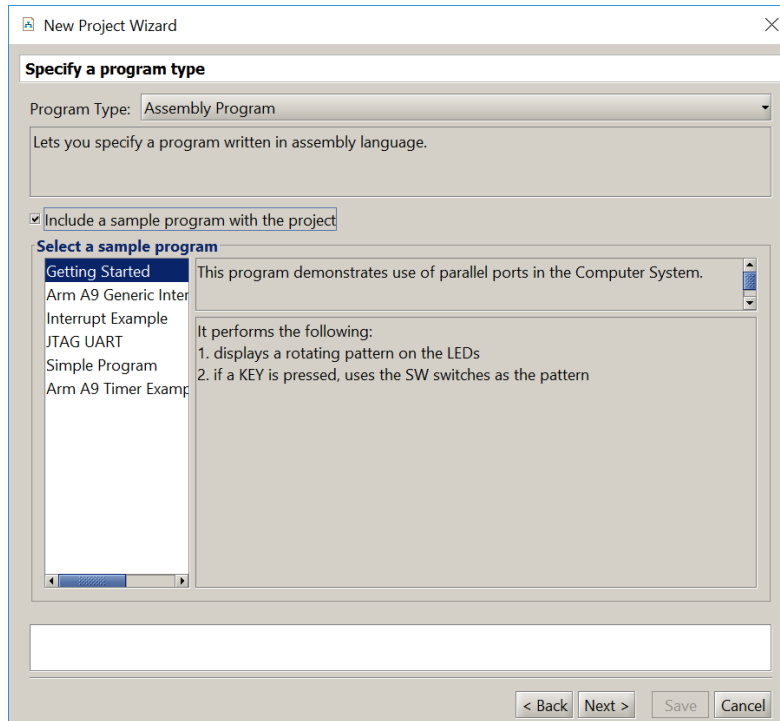

Figure 4: Selection of an application program.
4. In the window in Figure 4 you can specify the type of application programs that you wish to run. They can be written in either assembly language or the C programming language. Specify that an assembly language program will be used. The A Monitor Program package contains several sample programs. Select the box **Include a sample program with the project**. Then, choose the **Getting Started** program, as indicated in the figure, and click **Next**.
1. Create a new folder for this part of the exercise, with a name such as *Part2*. Create a file named *part2.s* and enter the code from Figure 9 into this file. Use the Monitor Program to create a new project in this folder; we have chosen the project name *part2*. When you reach the window in Figure 4 choose **Assembly Program** but do not select a sample program. Click **Next**.